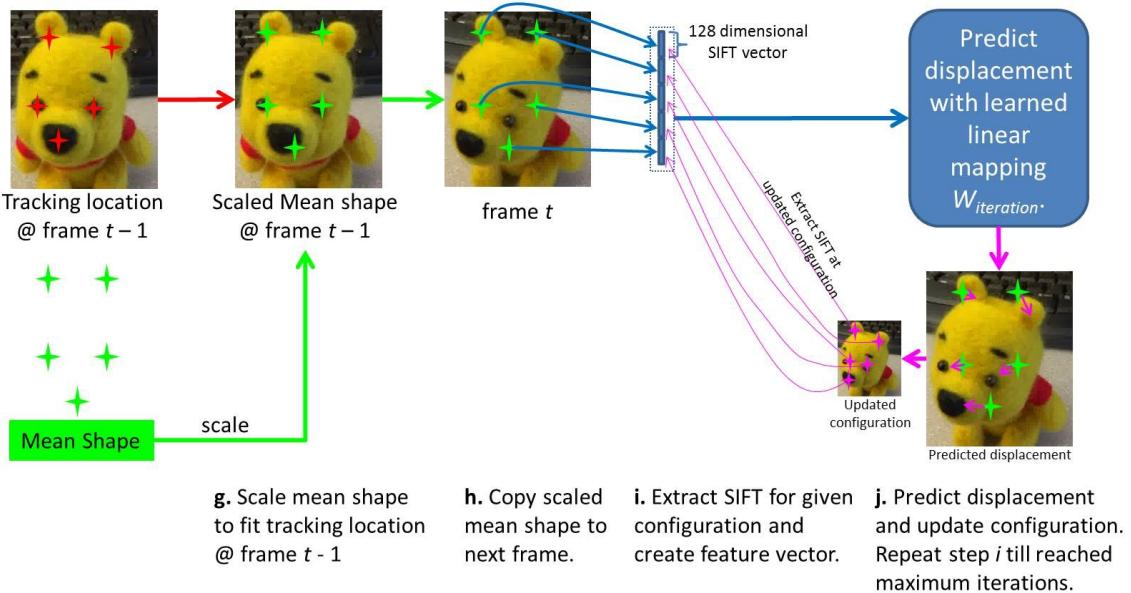

Figure 5: Flow for SDM prediction/tracking
- Given the tracking location of each component in the previous frame, translate and scale the mean shape so that it “fits” the location of the previous frame. For translation, the mean shapes center should match the objects center in the previous frames. For scale, you can use `lib/findscale.m`. The scaled mean shape serves as the starting point for SDM on the current frame. This step corresponds to step (g) and (h) in Figure 5.
- Extract SIFT features for the current configuration estimate and create the concatenated feature vector. Just like what you did in training, the scale of the SIFT features should also be rescaled according to the scale of the mean shape. This step corresponds to step (i) in Figure 5.
- Apply the mapping learned during training to each component. The mapping corresponding to the current iteration should be used. This step corresponds to step (j) in Figure 5.
4. Update the location of your current configuration according to the predicted displacement computed in the previous step and go back to step 2. Iterate until you reached the number of iterations used in training. This step corresponds to step (j) in Figure 5.